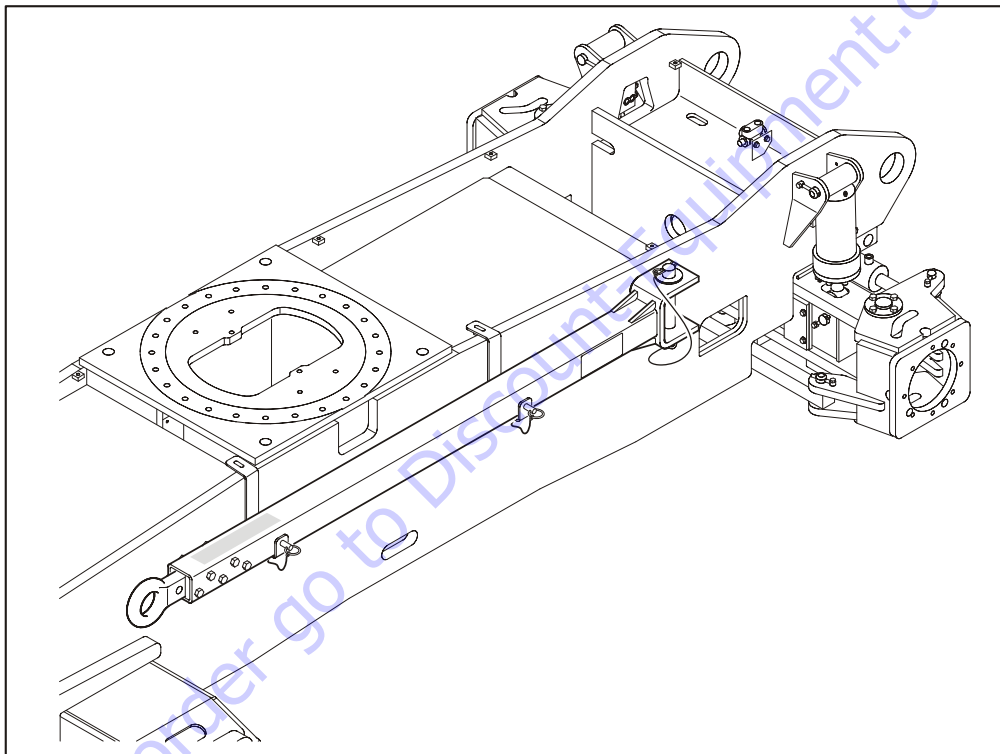

Figure 4-8. Tow Bar
3. Disconnect towbar from towing vehicle and place it in the stowed position as shown in Figure 4-8. The machine is now in the driving mode.